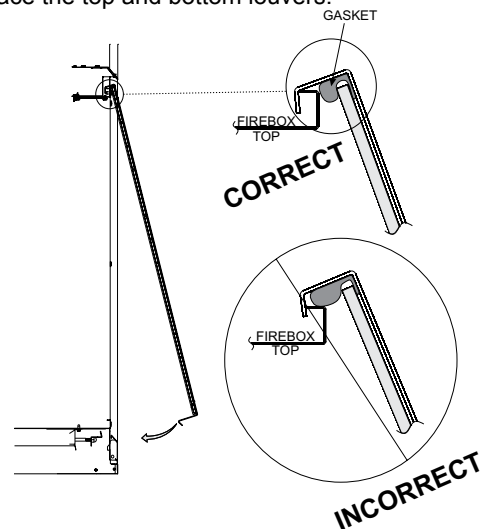

Figure 66
1. When installing the Glass Door assembly, make sure that the door top flange is hooked over the firebox top flange as illustrated in the "Correct" view in Figure 66.
Important: Do not allow the gasket across the top of the door to roll up on top of the firebox flange as shown in "Incorrect" view in Figure 66.